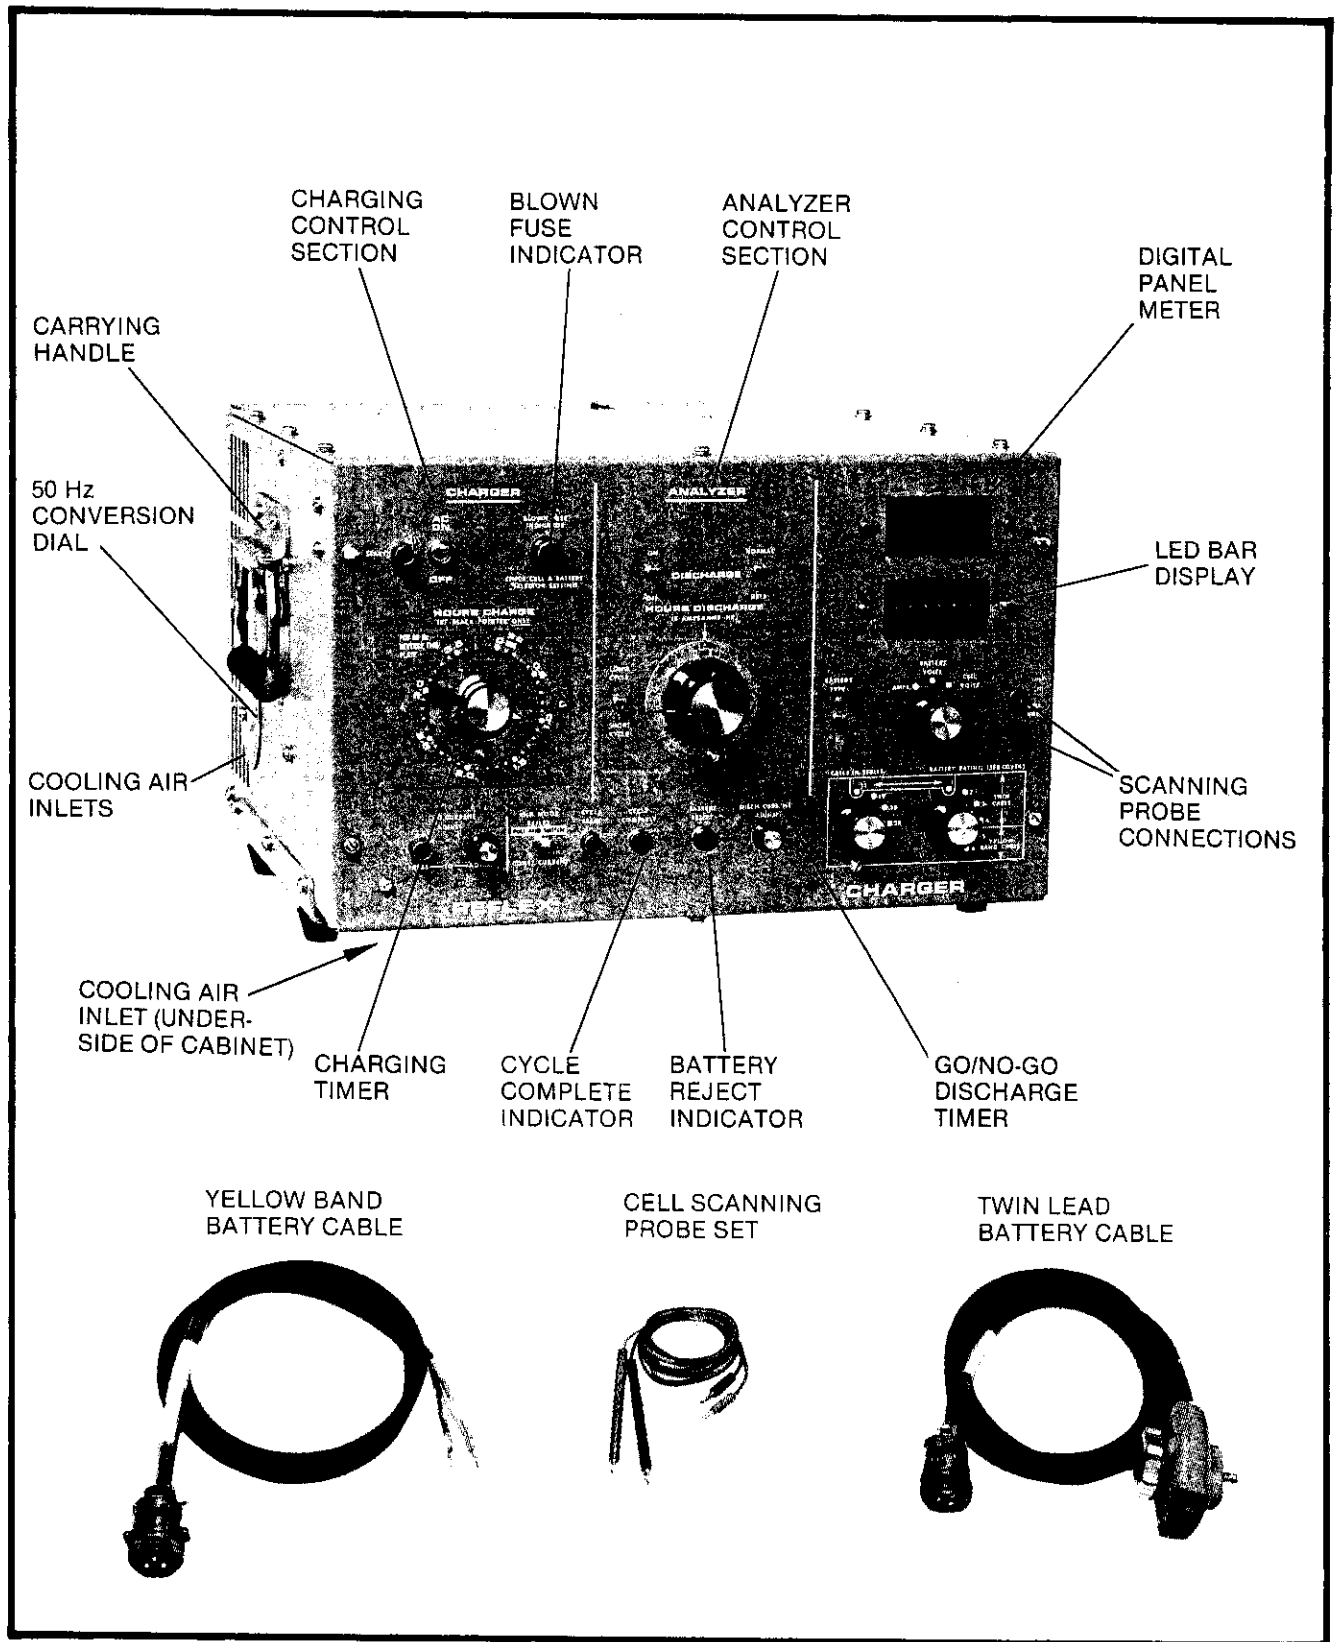

Figure 1-2. Location of External Components
- 1-15. The charger/analyzer is enclosed in a steel cabinet, fitted with mounting feet and two carrying handles. Figure 1-2 and 1-3 illustrate prominent features and components of the unit. The cabinet is finished with a blue coating resistant to the electrolyte of ni-cad batteries. Forced-air cooling is achieved by a fan at the rear of the unit which draws cooling air through openings on the left and underside of the cabinet. The top must always be closed during operation as the cabinet is designed with specific air flow patterns to assure proper cooling of all critical components. The heated air is exhausted by the cooling fan out the right rear of the cabinet. The unit is supplied with a red and black probe set for cell scanning, an input power cable, a twin-lead battery cable with Elcon-type connector, and an alternate yellow-band cable with lug-type connectors.